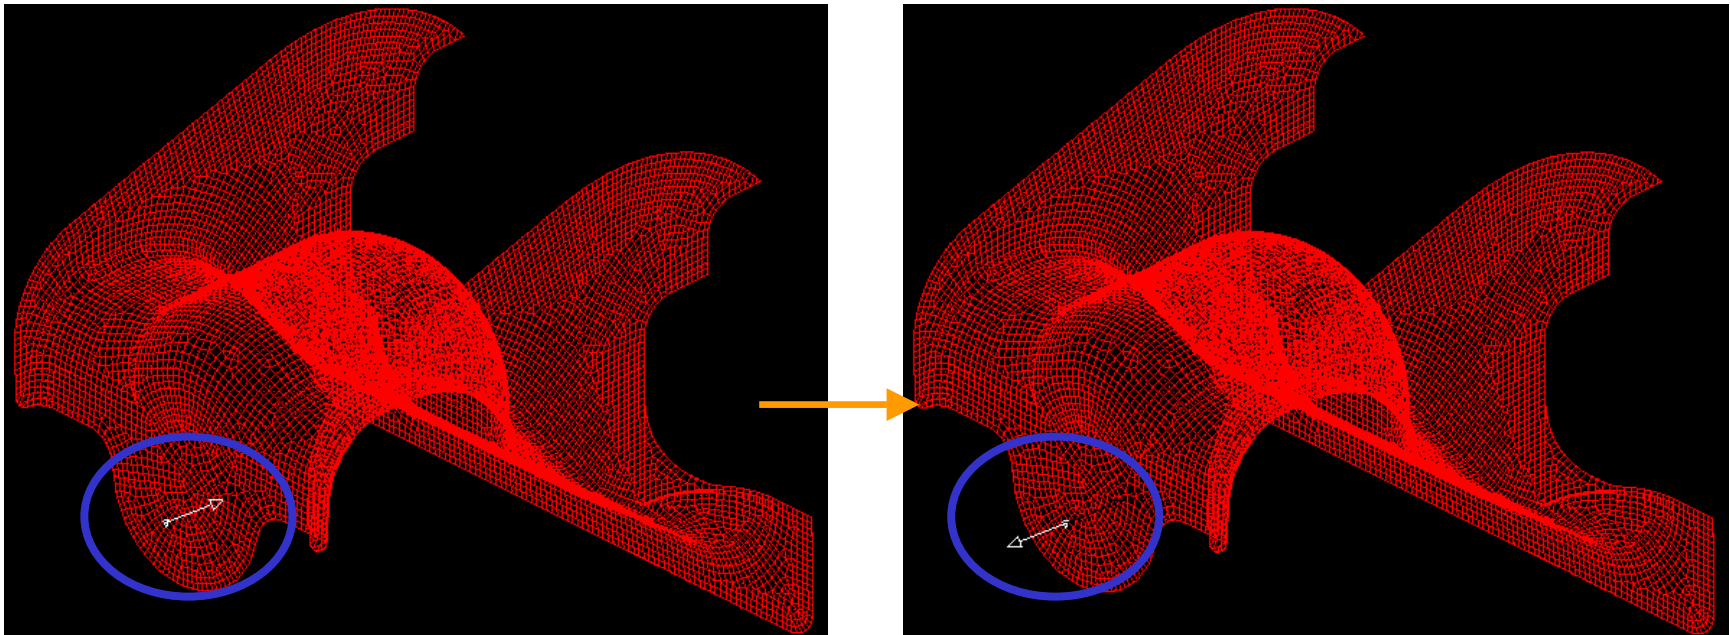

Figure 1.10
- f) Move cursor to pick an element on the part (as shown in Figure 1.10)